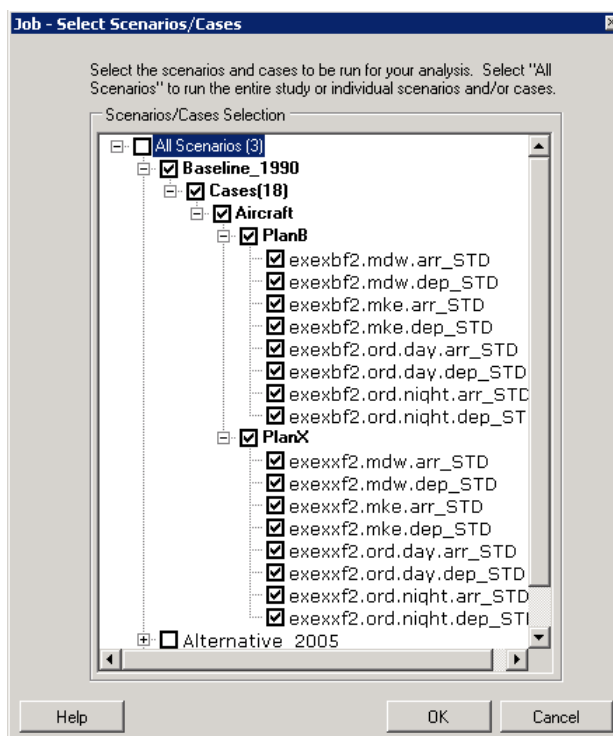

Figure 7-7 Job – Select Scenarios/Cases Dialog Box
- a. Click the *Add Job* button to add a new job, and the *Job – Select Scenarios/Cases* dialog box will open (Figure 7-7).